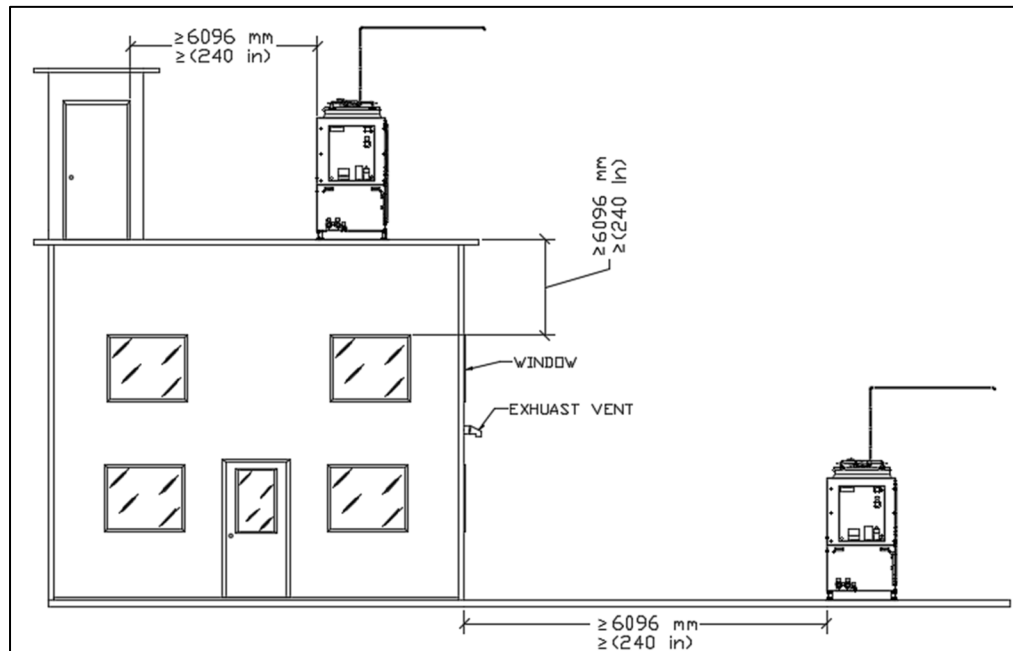

Figure 3 Distance required from building openings
- Building openings refer to any windows, ventilation openings, exits, or similar (Figure 3).